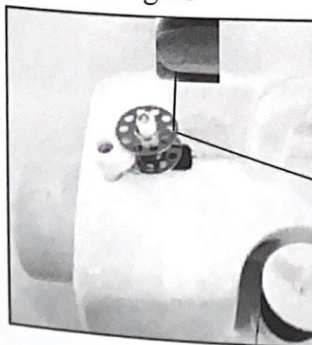

Fig.14
4. Push bobbin to the left. (Fig. 14)